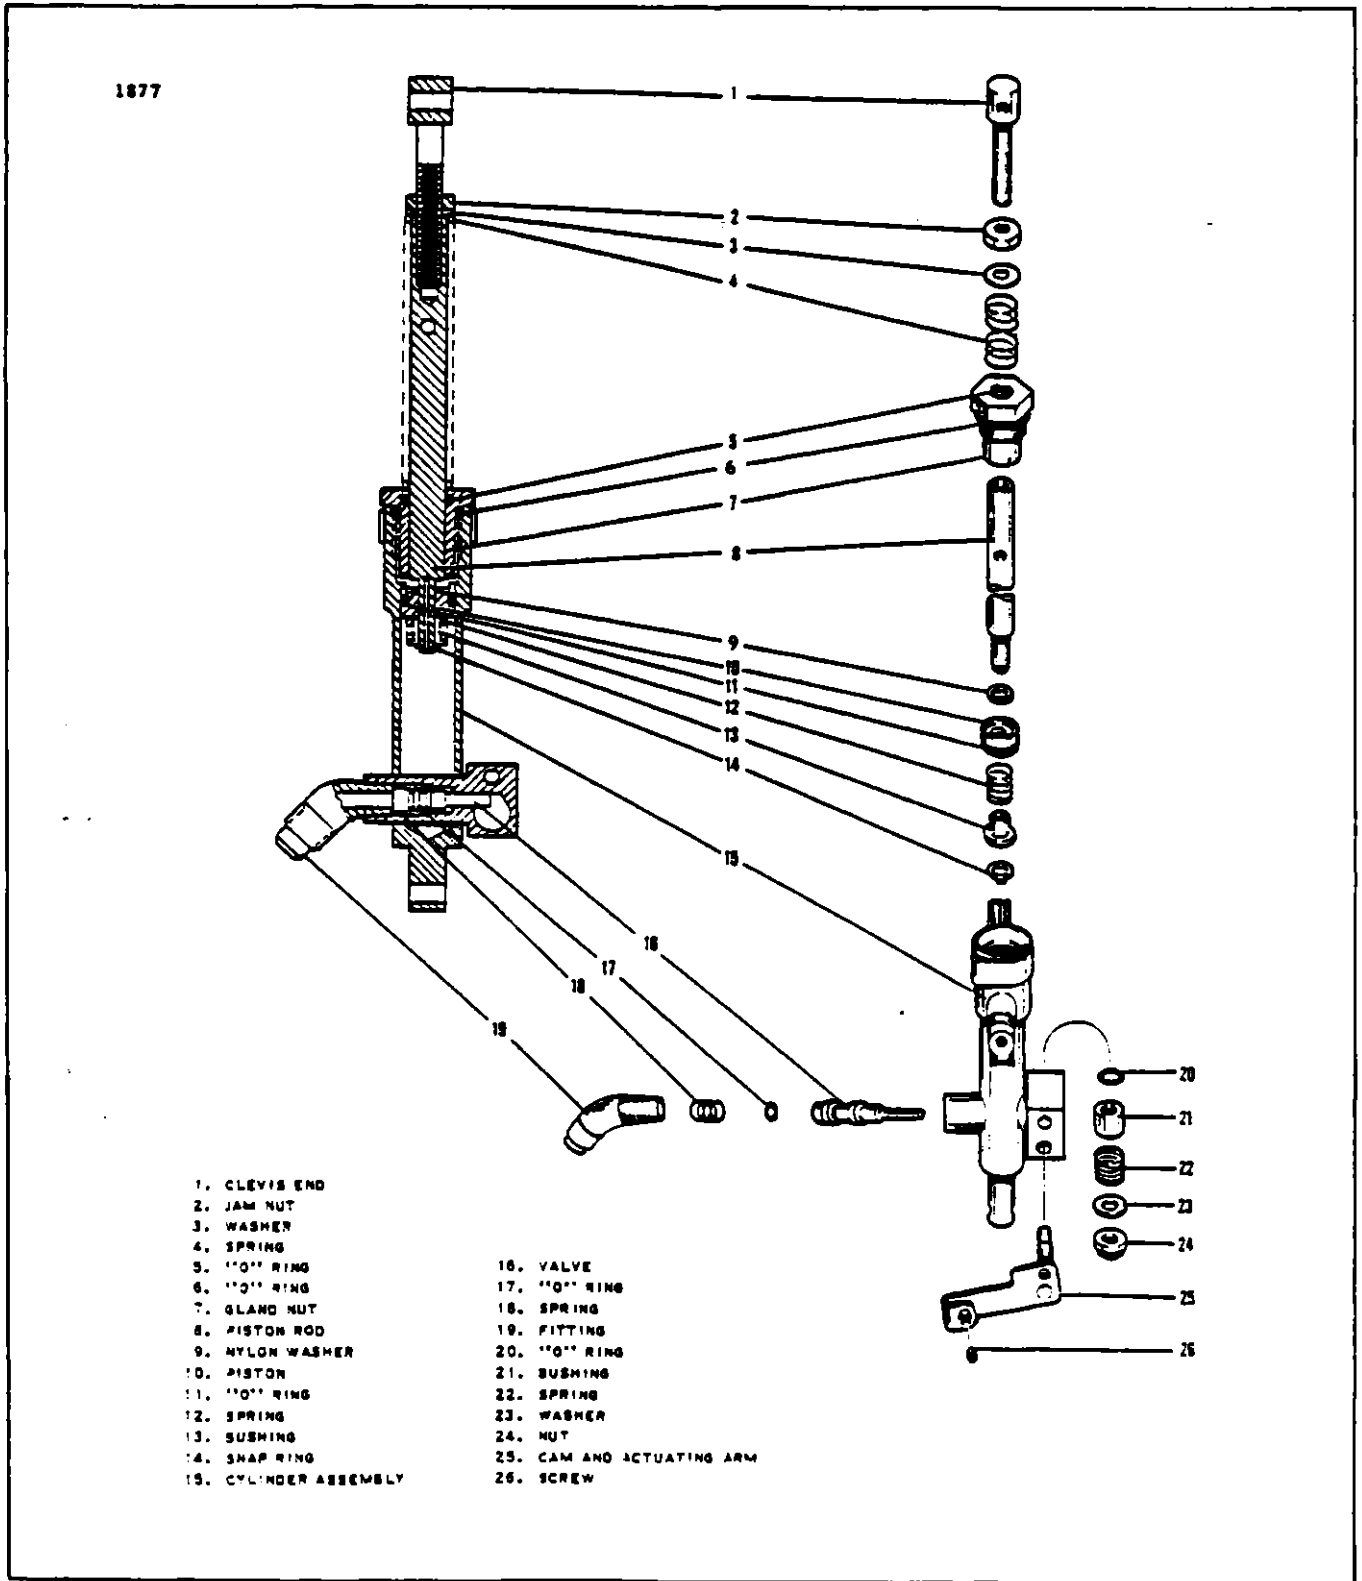

FIGURE 6-37. BRAKE MASTER CYLINDER PA-24-180 and PA-24-250,
**6-103 Disassembly Of Brake Cylinder.** (Refer to Figure 6-37 )
- a. Loosen the gland packing nut (7) and slide the piston rod assembly (8) out of the cylinder assembly (15).
- b. Remove the snap ring (14) at the bottom of the piston rod assembly and slide off bushing (13), spring (12), piston (10), washer (9), packing nut (7) and spring (4).
- c. Remove the nut (24), washer (23), spring (22), bushing (21) and "O" ring (20) attaching the parking brake arm (25) to the cylinder housing (15)
- d. Remove the lower fluid line fitting (19) and pull out the spring (18), "O" ring (17) and valve (16)
**6-105. Assembly Of Brake Cylinder.** (Refer to Figure 6-37 )